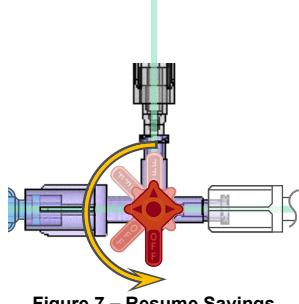

Figure 7 – Resume Savings
- b. To allow contrast saving to resume, orient the DyeVert Power XT Stopcock such that it is ON to both the *Valve Selection Stopcock* and the catheter. (See Figure 7)
- To allow contrast saving to resume, orient the DyeVert Power XT Stopcock such that it is ON to both the *Valve Selection Stopcock* and the catheter. (See Figure 7)